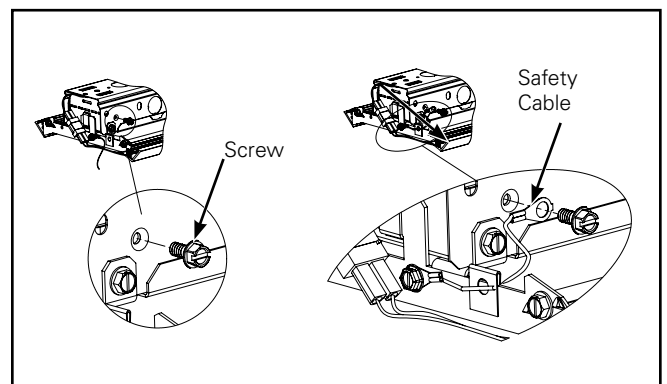

Figure 13.
6. To install safety cable remove screw from channel assembly and reattach safety cable with the same screw. (Figure 13.)